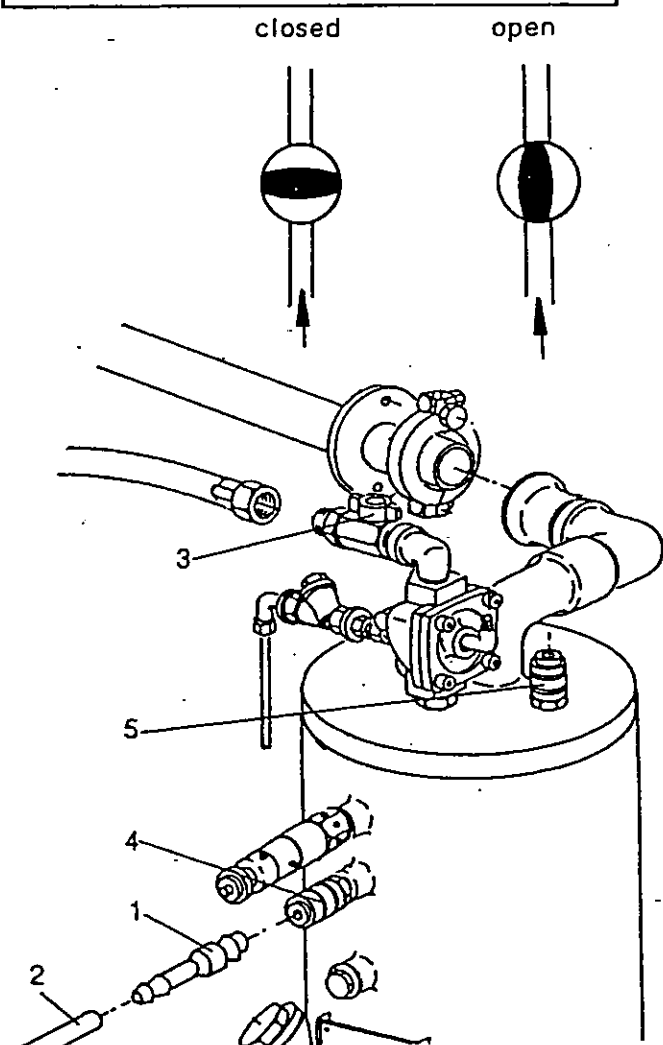

Figure 22
- Loosen self-locking nuts (5) and (6) of the elastic pipe connection and remove bracket halves (10).
- Loosen pipe fittings (1), remove screws (3) and tank head (4).
- Remove the old oil separating cartridge (2) with gaskets (8) and clean gasket surfaces.
- Place in a new cartridge (2) with new gaskets (8) and fasten tank head (4) with screws (3).
- When changing the cartridge (2), unscrew and replace screen filter and o-ring from the dirt trap (7). Also replace the diaphragm, part no. 5.0999.0 on the vent valve. See section 11.7.
- Remove the vent socket (1, Figure 22).